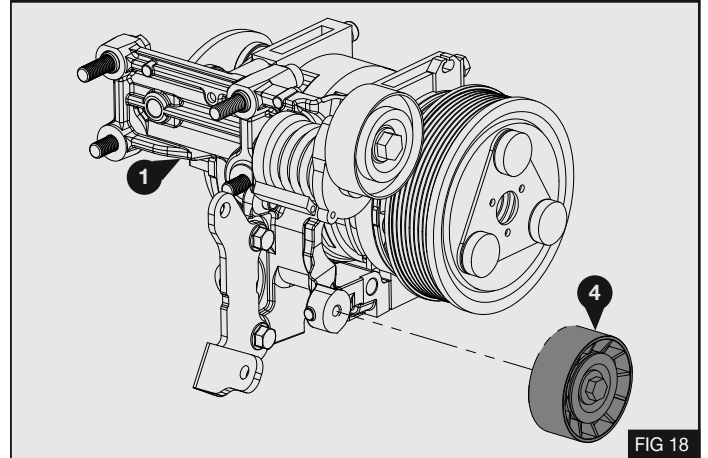

FIG 18
2. Install the idle pulley (4) to the mount bracket (1) – Fig 18
Torque the idle pulley retaining bolt to 25Nm / 18.4lb ft. – Fig 18